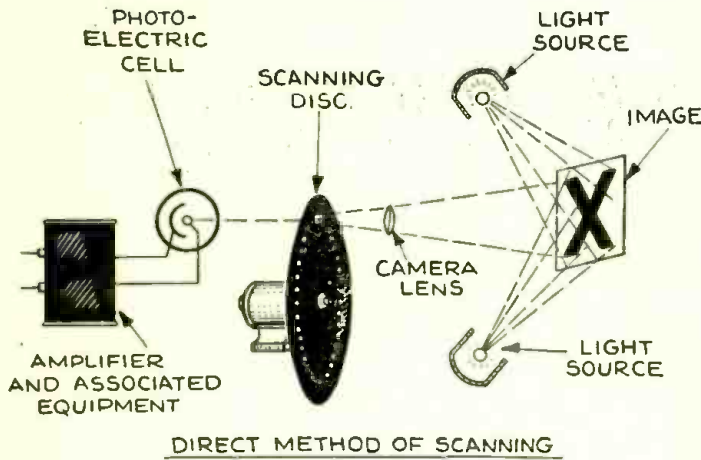

FIG. 1
**B**AIRD constructs discs in which the first three holes and the last three holes of the spiral are rectangular rather than square, being in short equal in their breadth, in the direction of motion, for all the holes. (Fig. 1.) With this arrangement, while the frequency remains constant (because the number of holes is always the same) the width
In particular, at the instant when the scanning is completed in the horizontal or vertical (Baird system) direction, one can render in less detail the lower or upper zone of the image or (with vertical scanning) the lateral zones, as shown in Fig. 1, which gives the idea of the different density of scanning for both cases.
Referring to Fig. 1 we have what is